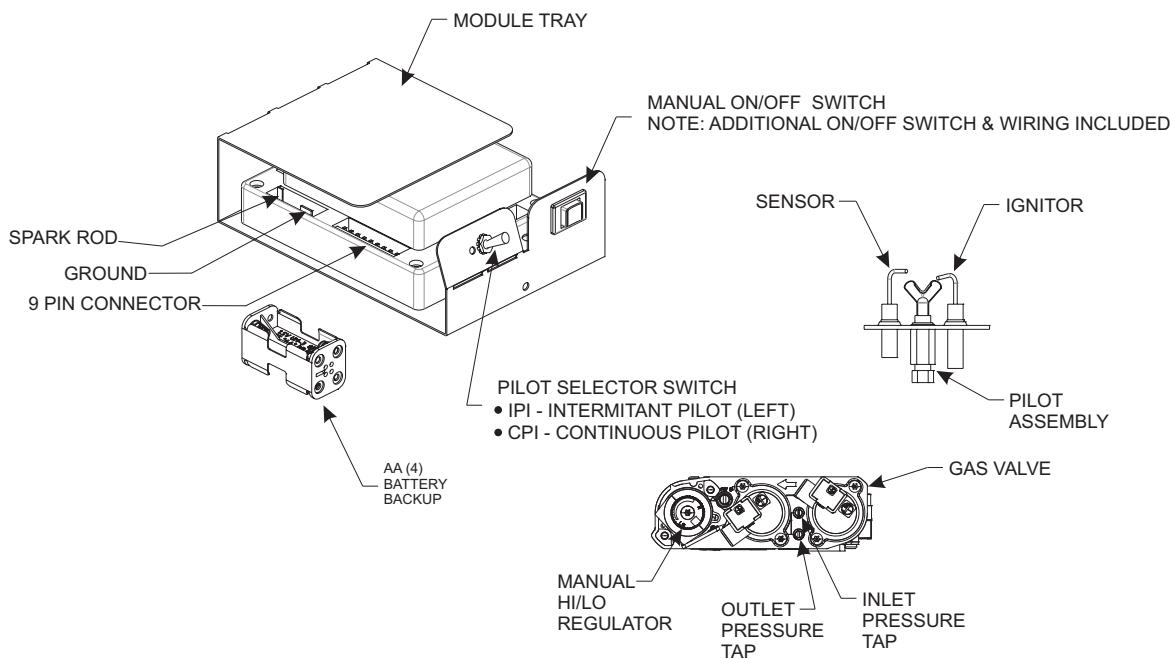

Figure 75
See Figure 75.
3. The gas valve has inlet and outlet pressure taps as shown in **Figure 75**. Refer to pages 8 and 17 for gas pressure requirements.
**NOTICE:** The gas control has a manual HI/LO flame adjustment knob (regulator) that allows you to increase or decrease the height of the burner flame. **See Figure 75.** Rotate the HI/LO knob counterclockwise to “HI” to increase the flame height, and clockwise to “LO” to decrease the flame height.
To connect the remote receiver to the appliance, first disconnect the ON/OFF switch wires from the white and green wire connectors and connect the wires from the remote receiver to the green and white wire connectors. **See Figure 75.**